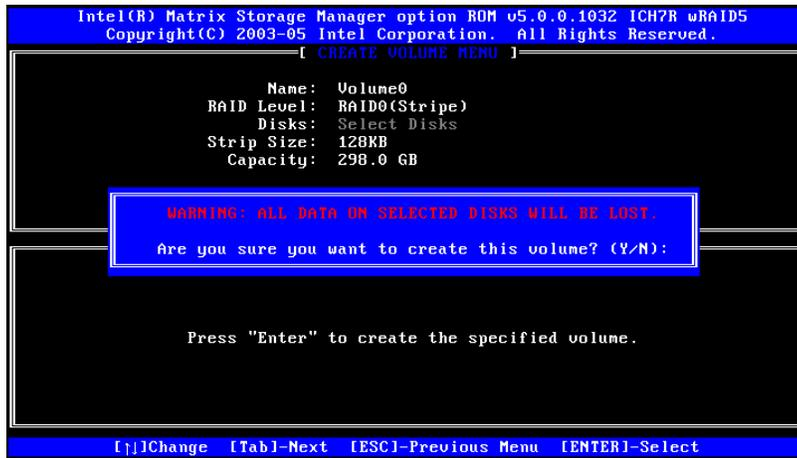

Figure F-7: Create RAID Volume Verification
Step 7: Create RAID Volume Verification. After reading the warning, press **Y** to create the RAID volume as specified, or **N** to return to the **Create RAID Volume** menu. See **Figure F-7**.